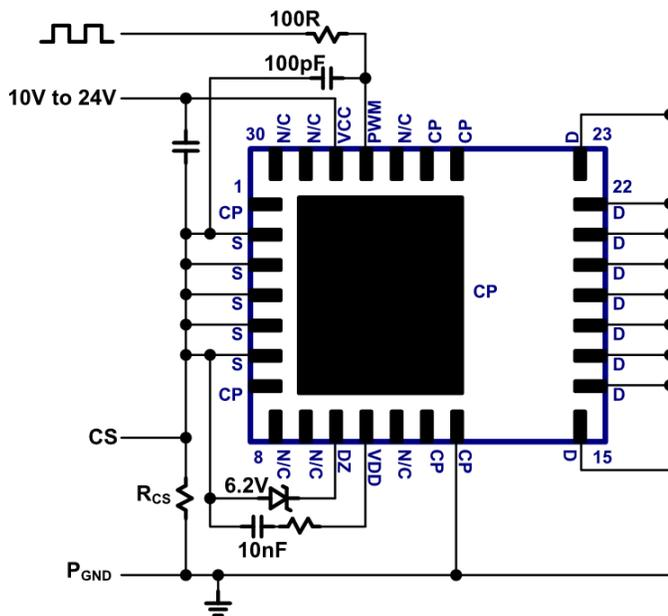

Fig. 24. Current sensing circuit
For many applications it is necessary to sense the cycle-by-cycle current flowing through the power FET. To sense the current flowing through the GaNFast power IC, a standard current-sensing resistor can be placed between the source and power ground (Fig. 24). In this configuration, all of the components around the GaNFast power IC (C_{VCC} , C_{VDD} , D_z , etc.) should be grounded with a single connection at the source. Also, an additional RC filter can be inserted between the PWM signal and the PWM pin (100 Ω , 100 pF typical). This filter is necessary to prevent false triggering due to high-frequency voltage spikes occurring at the source node due to external parasitic inductance from the source PCB trace or the current-sensing resistor itself. For increased cooling pad PCB copper area it may be desired to connect CP to the circuit PGND. Fig. 24 shows the components around the GaNFast power IC grounded at the source pins (S and CP connected to PGND). This allows for all CP pins and CP pad to be connected to a large and continuous thermal copper area without being obstructed by the current sensing resistor. CP must be connected to source (S) or circuit PGND! Do not leave CP floating!